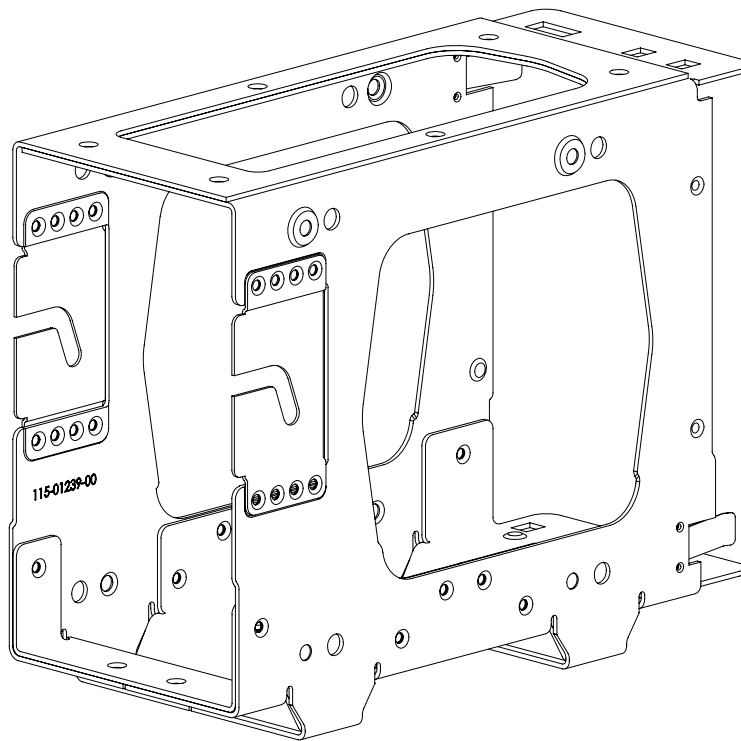

Figure 2-3 GIA 63(W) Standalone Rack
Figure 2-3 and Figure B-4 show the GIA 63(W) remote mounted stand-alone rack. The remote rack can be installed in a variety of locations, such as the electronics bay, under a seat, or on an avionics shelf behind the rear baggage area. Refer to Figure 2-4 for suggested mounting locations. Leave sufficient clearance between the GIA 63(W) and any obstruction. The rack should be mounted to a surface known to have sufficient structural integrity to withstand additional inertia forces imposed by a 7.5-pound (3.4 kg) unit. Figure B-3 gives the GIA 63(W) stand-alone rack dimensions.